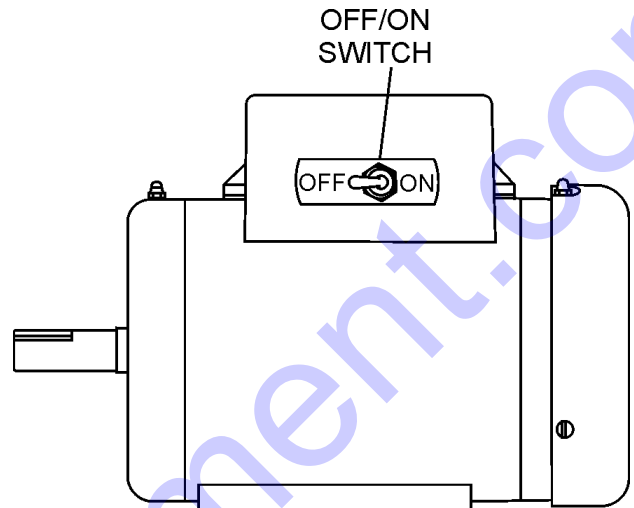

Figure 26. Electric Motor OFF/STOP Switch
1. To stop the electric motor, move the **ON/OFF** switch to the **OFF** position (Figure 26).